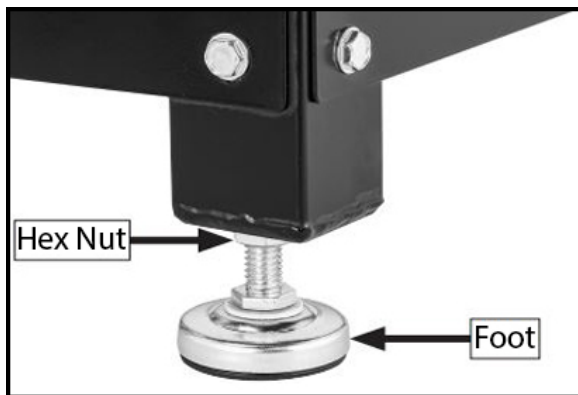

Figure 38
2. Loosen the (4) ½-12 hex nuts on the router table feet. (Fig.38)